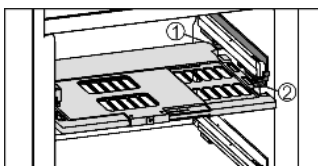

Fig. 15
- ▶ To insert the humidity control plate: Insert the cover mouldings of the plate into the rear holder Fig. 15 (1) from underneath and engage them in the holder Fig. 15 (2) at the front.